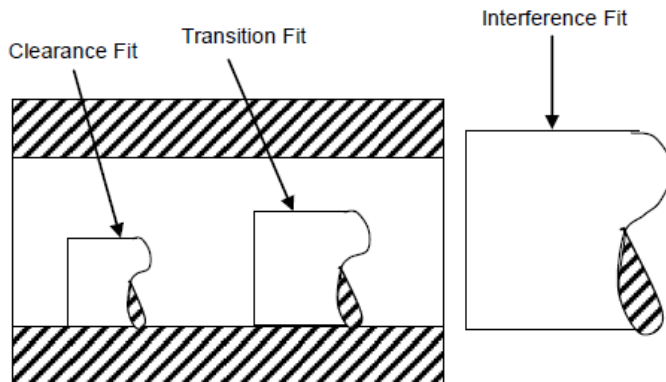

Fig. 1.15 Hole basis system
1. Hole basis system (Figure 1.15)